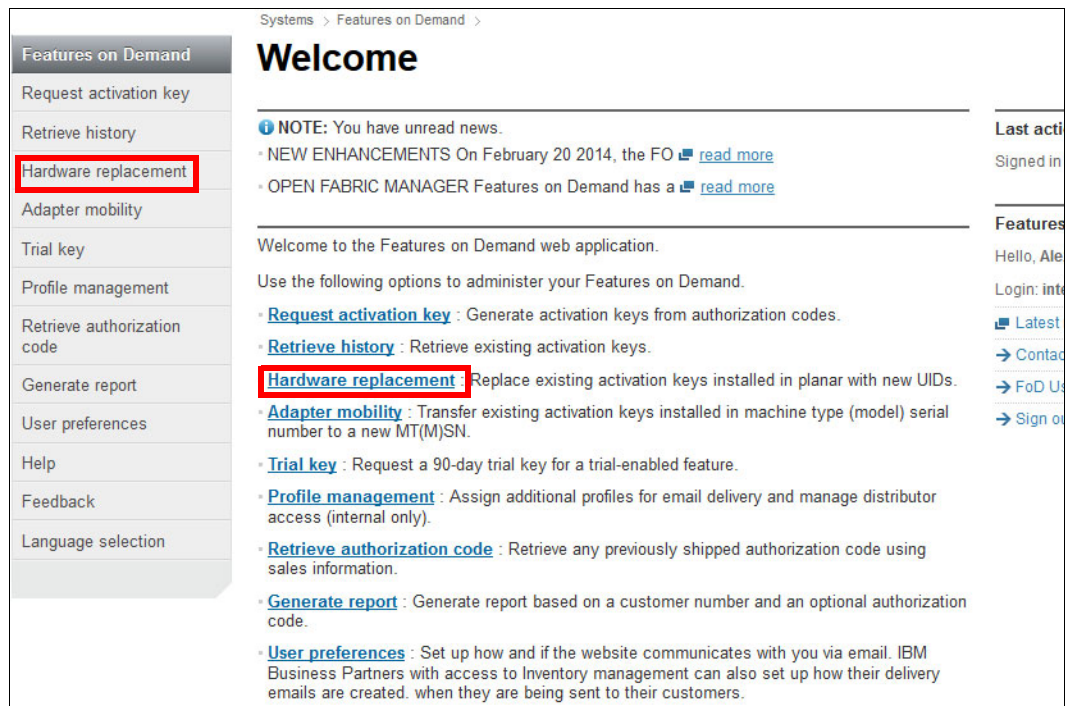

Figure 5-1 Hardware replacement option
1. To access the hardware replacement menu, select **Hardware replacement** from the center of the page or from the left navigation pane, as shown in Figure 5-1.